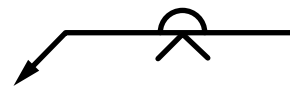

Figure 6
14. The type of weld symbol shown above the reference line in *Review Question Figure 6* is a \_\_\_\_.